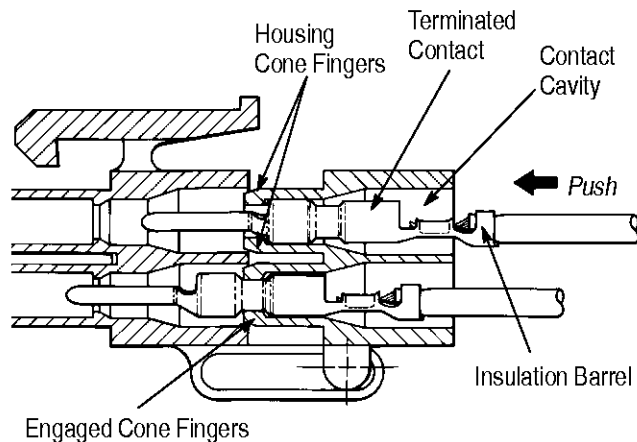

Figure 3
3. Select the appropriate contact cavities. Insert terminated pin or socket contacts into wire side of housing by grasping the wire directly behind the insulation barrel and pushing the contact with a twisting motion into the contact cavity until the contact stops, and the housing cone fingers engage. See Figure 3.